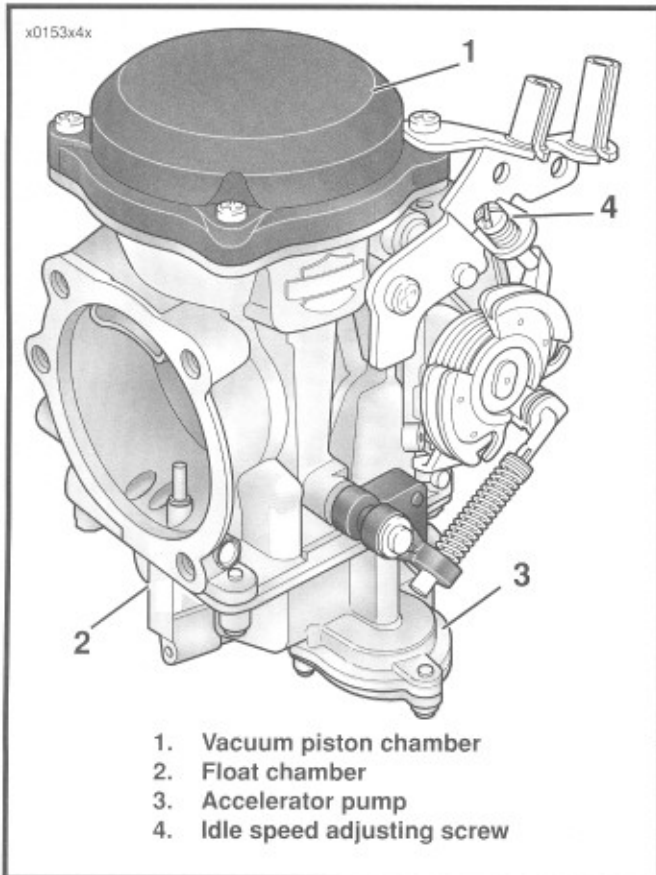

Figure 4-1. Carburetor
GENERAL (Figure 4-1)
See Figure 4-1. With engine at normal operating temperature and enricher pushed in all the way (enricher valve closed), adjust idle speed adjusting screw (4) so engine idles at 950-1050 rpm.